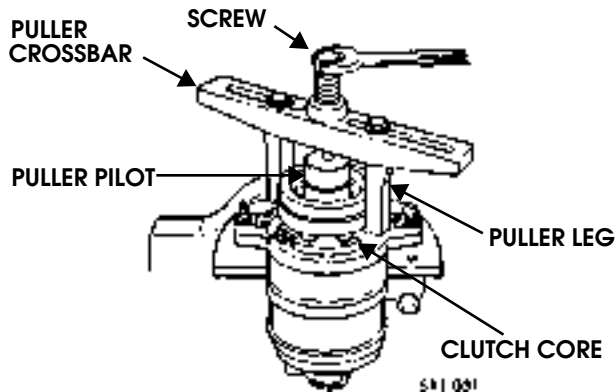

Figure 11-39: Clutch Core
2. Install puller pilot and puller crossbar with puller legs on compressor (Figure 11-39).
1. Place the clutch core on compressor with the terminal positioned at the marked location (Figure 11-39).